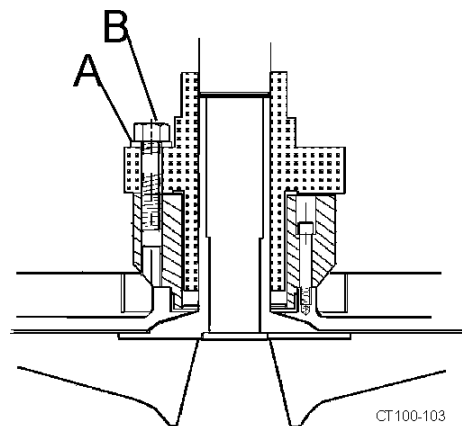

Figure 36 - Fasten Seal Unit in Place
7. Install the cartridge seal unit and use retaining bolts (Figure 36, item B) and flat washers (Figure 36,